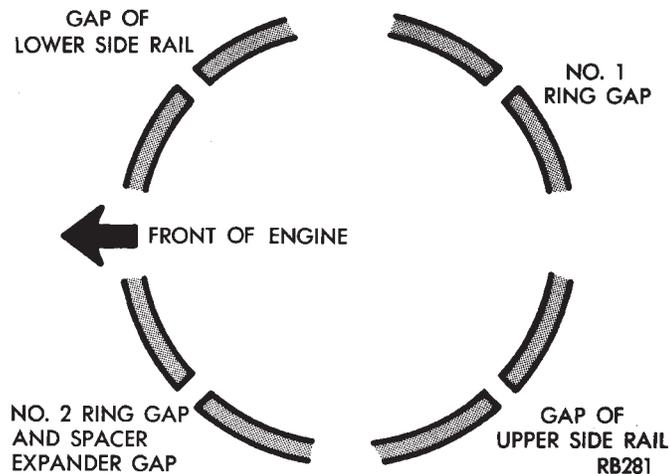
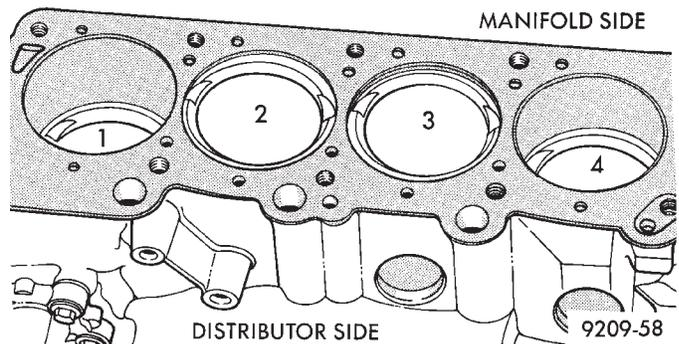

Fig. 13 Piston Ring End Gap Position
Fig. 15 Piston Markings
(1) The No. 1 and No. 2 piston rings have a different cross section. Install rings with manufacturers I.D. mark facing up, to the top of the piston. (Fig. 13)
(5) Position piston ring end gaps as shown in (Fig. 13).
(6) Position oil ring expander gap at least 45° from the side rail gaps but **not** on the piston pin center or on the thrust direction. Staggering ring gap is important for oil control.
(1) Before installing pistons, and connecting rod assemblies into the bore, be sure that compression ring gaps are staggered so that neither is in line with oil ring rail gap.
(2) Before installing the ring compressor, make sure the oil ring expander ends are butted and the rail gaps located as shown in (Fig. 13).
(3) Immerse the piston head and rings in clean engine oil, slide the ring compressor, over the piston and tighten with the special wrench. **Be sure position of rings does not change during this operation.**
(4) The valve cut should be toward the manifold side of the engine. (Fig. 15)